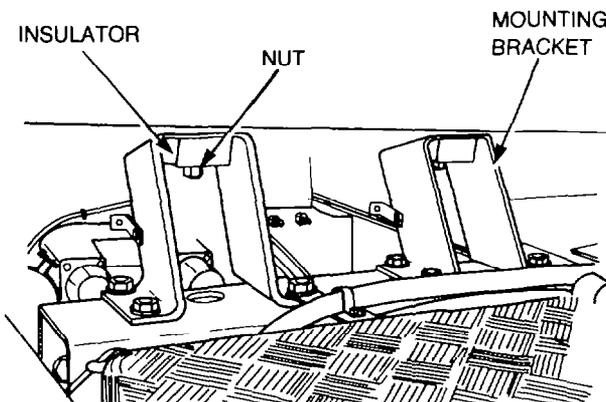

Figure 315 — Rear Cab Mounts
- c. Remove the nuts, washers and insulators securing the cab to the rear mounting brackets (see Fig. 315).